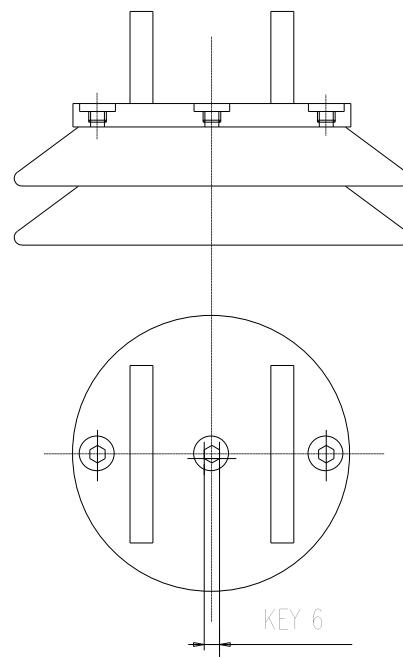

Fig. 8
- Remove the plug placed in the middle of the head of the bushing; to unscrew (and close) this plug, use a hexagonal wrench of 6 mm (fig. 8);
- Unscrew the two plugs placed symmetrically on the head (fig. 8);